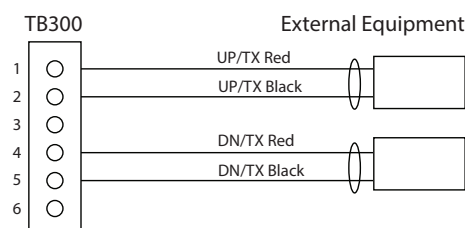

Figure 18: Upstream/downstream transducer
3. The terminals within the transmitter are screw-down barrier terminals. Connect the wires at the corresponding screw terminals in the transmitter. Observe upstream and downstream orientation and wire polarity. See *Figure 18*.